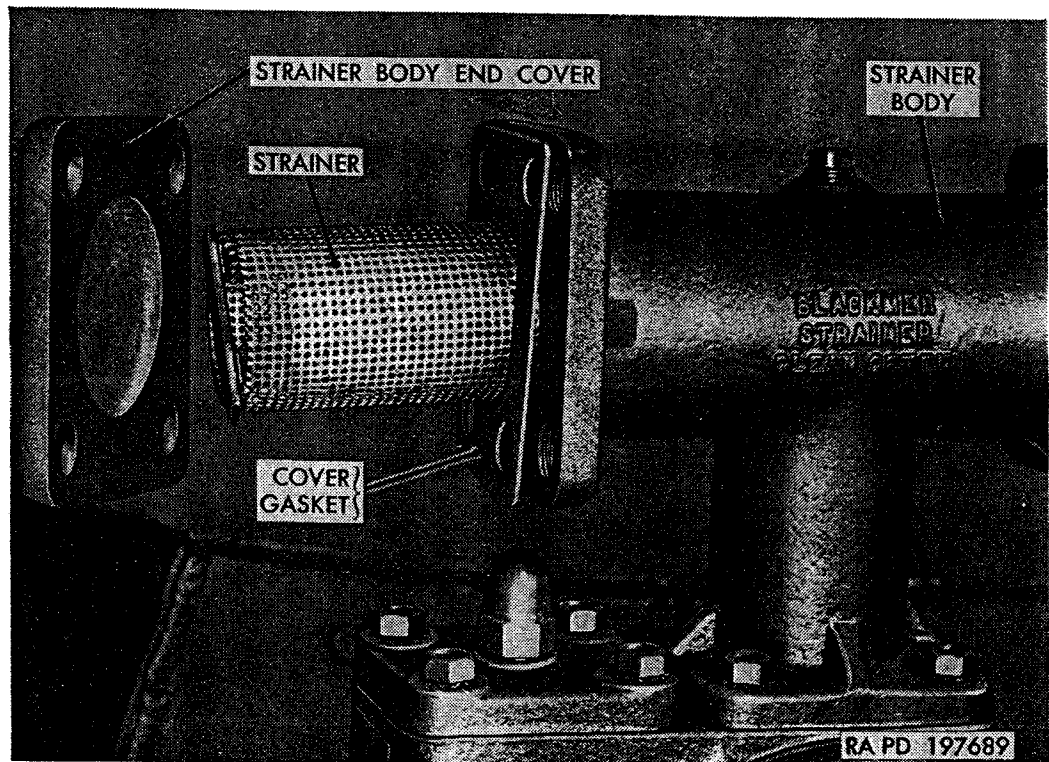

Figure 373. Water tank pump strainer.
b. Pump Strainer Service (fig. 373).
- (1) Remove four cap screws and external-teeth lockwashers attaching strainer body end cover to strainer body. Remove end cover and gasket; then withdraw strainer screen from strainer body. Discard gasket.
- (2) Thoroughly clean screen, using a brush if necessary to remove all foreign material. If cleaning solvent is used to loosen dirt or corrosion, wash off all traces of cleaning fluid with hot water. Make sure all particles of gasket are removed from end cover and from strainer body flange.
- (3) Insert strainer screen into strainer body, open end first. Coat both sides of new end cover gasket with gasket cement and place gasket on strainer body flange. Position strainer body end cover against body flange, with centering bar on strainer in place in depression in end cover. Attach cover to strainer body with four $\frac{1}{2}$ -13 x 1 cap screws and $\frac{1}{2}$ -inch external-teeth lockwashers.